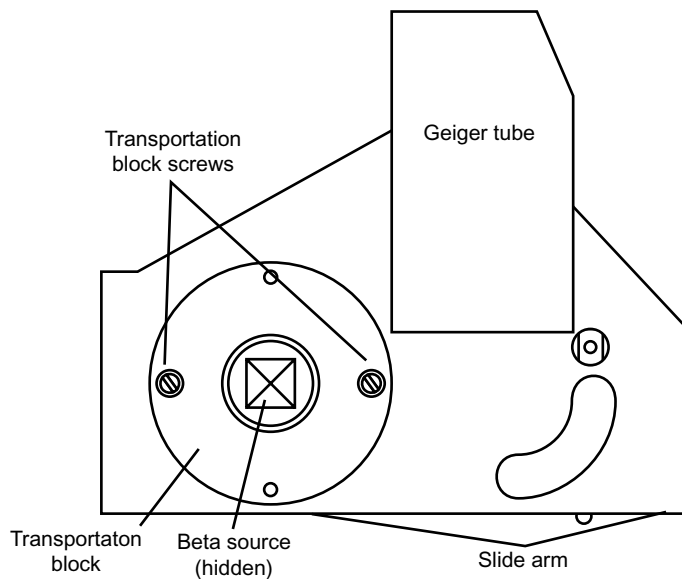

Figure 4.5. The slide in position for inserting the transportation block.
3. The beta source is to be moved from the transportation block to the normal measurement position below the Geiger tube by a slide. The slide is secured by a locking screw to the right, seen from the front. Remove the locking screw completely and move the slide arm counter-clockwise, as shown in figure 4.5.
4. The hole in the slide for the beta source now becomes visible. Insert the transportation block in the hole. Make sure the block goes all the way down to the chassis. See figure 4.5.